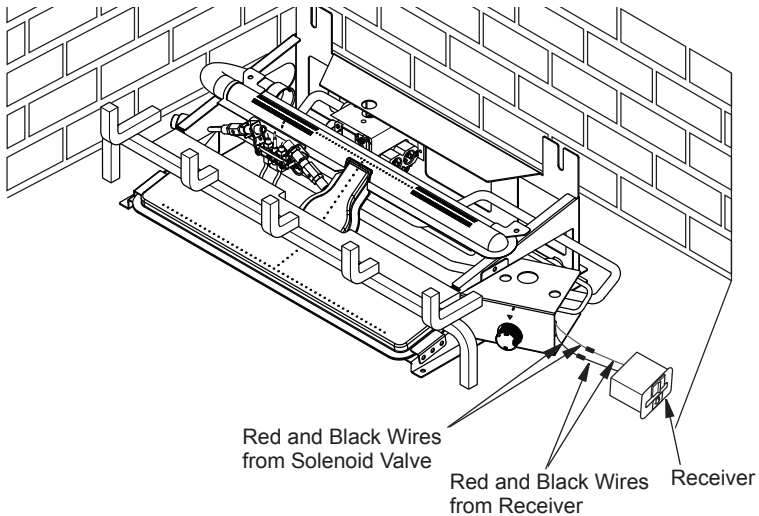

Figure 20 - Attaching Remote Receiver to Solenoid Valve
1. Remove battery cover on receiver as shown on the box. Install four AA size batteries into receiver, (see Figure 20).
2. Locate red and black wires from solenoid valve on right side of heater. Connect wires to receiver, red to red, black to black, (see Figure 20).
3. Place receiver to the side of the log set, (see Figure 20).